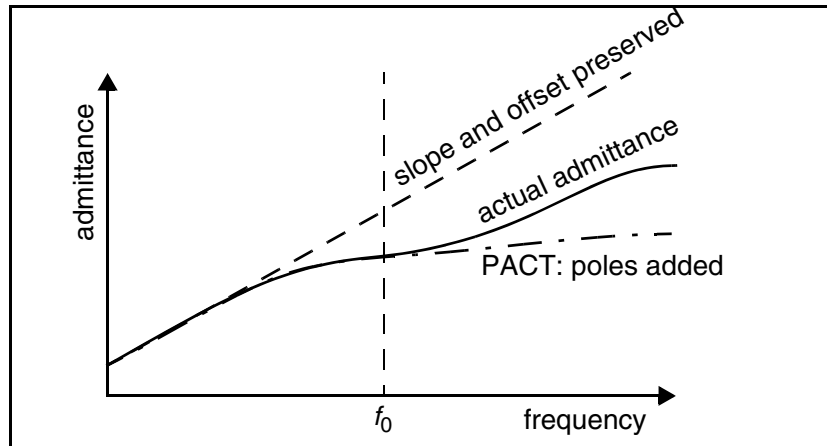

Figure 105 PACT Algorithm
- The transform preserves the first two moments of admittance at DC (slope and offset), so that DC behavior is correct (see Figure 105).